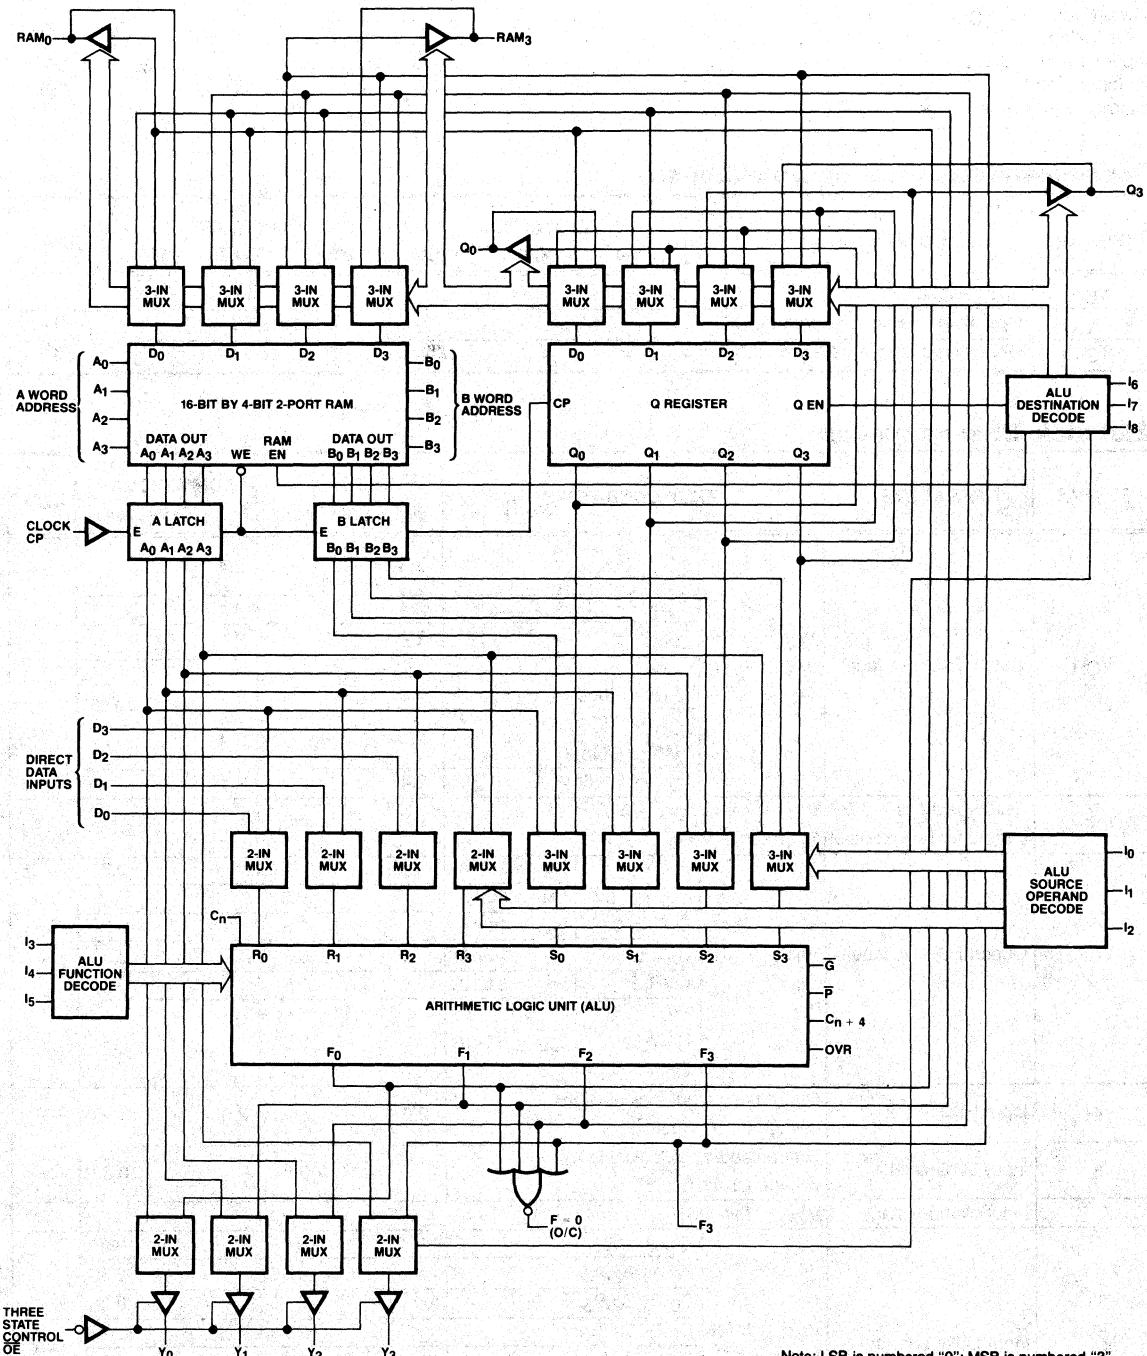

Figure 2. Detailed 2901A Microprocessor Block Diagram
A detailed block diagram of the bipolar micropogrammable microprocessor structure is shown in Figure 2. The circuit is a four-bit slice cascadable to any number of bits. Therefore, all data paths within the circuit are four bits wide. The two key elements in the Figure 2 block diagram are the 16-word by 4-bit 2-port RAM and the high-speed ALU.
Referring to Figure 2, the ALU R-input multiplexer has the RAM A-port and the direct data inputs (D) connected as inputs. Likewise, the ALU S-input multiplexer has the RAM A-port, the RAM B-port and the Q register connected as inputs.